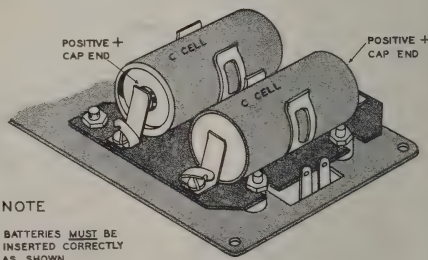

Figure 9
- (X) Refer to Figure 9 and, noting the position of the battery caps, install the two size "C" batteries by pulling out slightly on the one spring contactor and pushing the battery against the other. Apply only sufficient pressure to allow the battery to slip into place. NOTE: If the contactors are sprung too far out to make contact with the battery, or if the batteries are installed without proper regard to polarity, your Code Oscillator will not operate!
- (X) Be sure the 2N407 transistor leads are not bent out of line, then plug it into the socket on the L bracket.